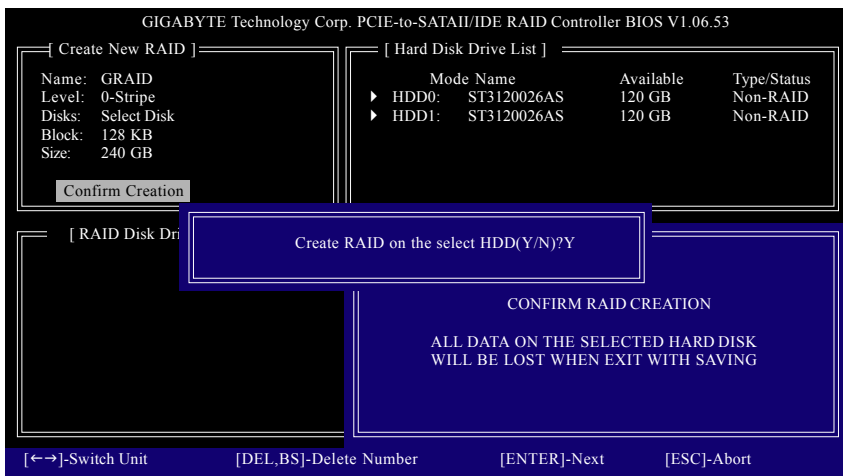

Figure 9
6. **Confirm Creation:** After all of the items are configured, the selection bar automatically jumps to the **Confirm Creation** item. When prompted to confirm your selections (Figure 9), press Y to confirm or N to abort.